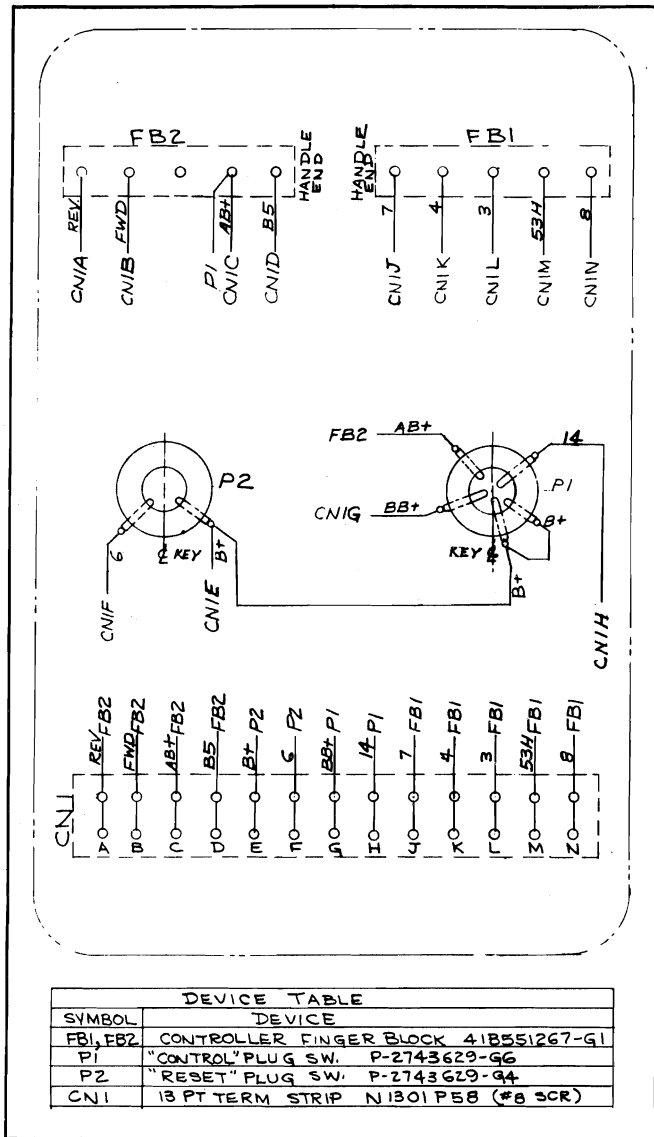

FIG. 8-4. WIRING DIAGRAM INTERNAL CONNECTIONS (41C651041).
17. Install the support (23) with the two plug switch assemblies (27) attached onto the controller brackets (35), and torque the four sets of mounting hardware to 22-27 in.-lb.
18. Wire the controller per the wiring diagram, Fig. 8-4.
19. Install the cover (2) onto the controller, and torque the four sets of mounting hardware to 22-27 in.-lb.
20. Install the handle assembly (1) and the plug (36) onto the controller.